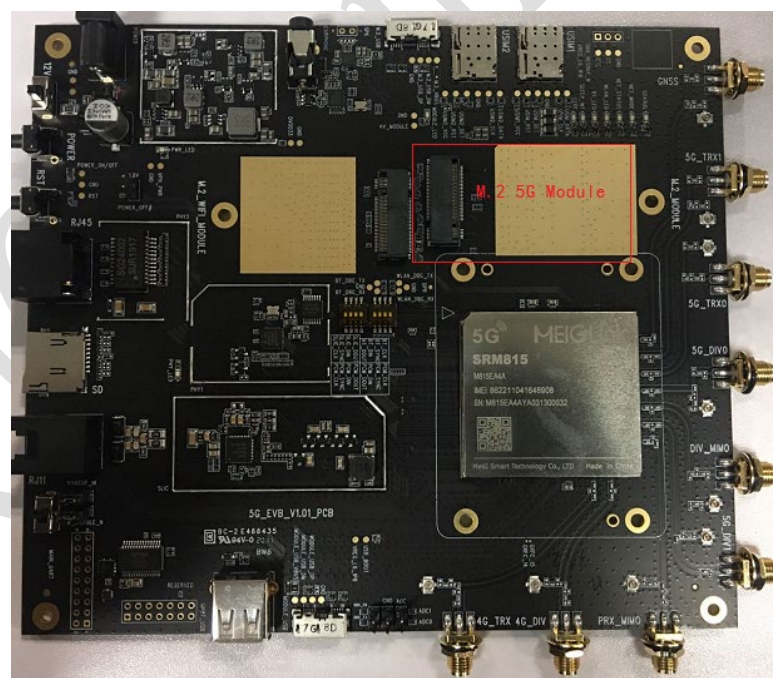

Figure 7 M.2 5G Module Interface
M.2 module dimension 52mm x 30mm x 2.3mm. Standard gold finger interface is used. The plug position on EVB is shown in Figure 7.